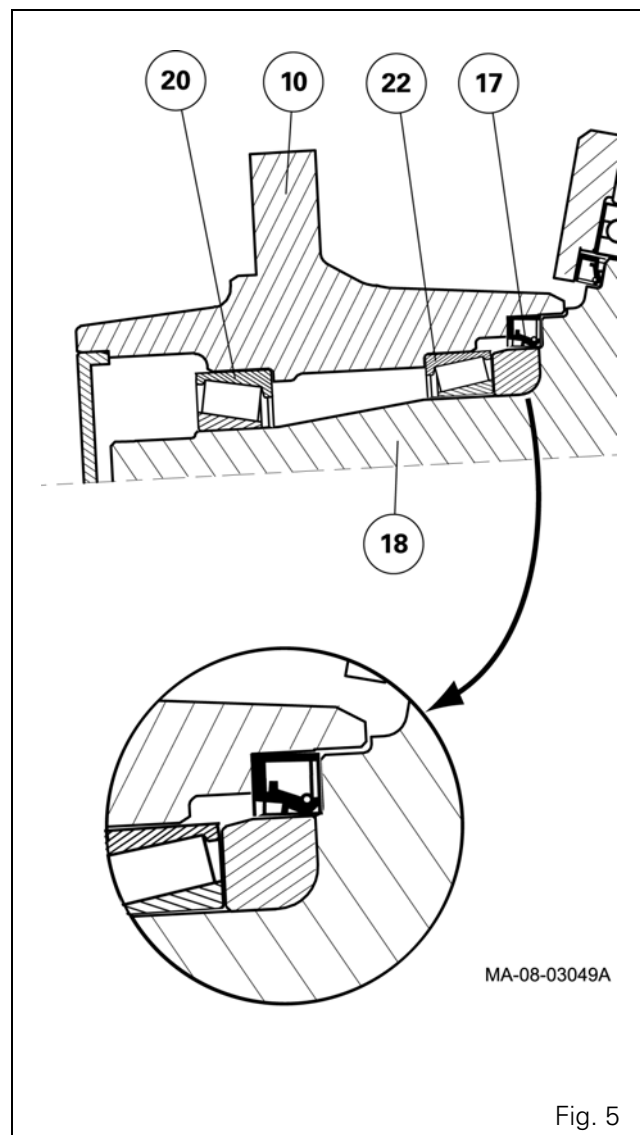

Fig. 5
- 32.** Using a press and a suitable fixture, fit the cups of bearings (20) (22) fully up against the shoulder in the hub (10).
- 33.** Smear the cone (22) with bearing grease and place it in its corresponding cup.
- 34.** Using a suitable fixture, fit the seal (17) in its housing fully up against the shoulder, with the lip turned outwards (Fig. 5).